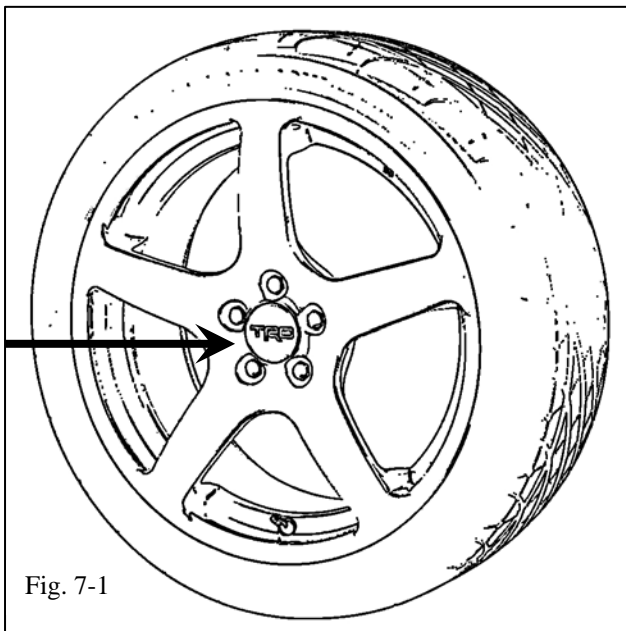

Fig. 7-1
- (a) Install caps into wheels as shown in Fig. 7-1 & 7-2. Be sure to orient the TRD text relative to the valve hole as shown.